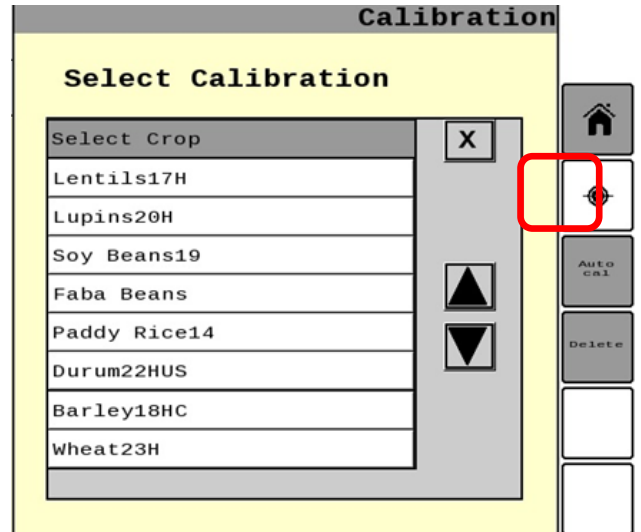

Figure 5.7 CropScan Virtual Terminal Calibration screen
- i. Select the **Calibration** button as shown in figure 5.7.